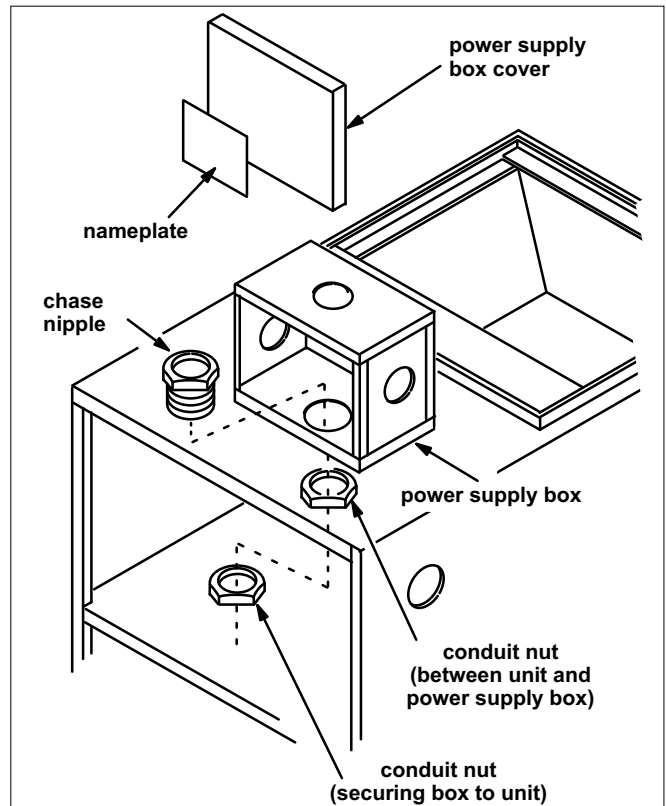

Figure 1. Single Point Power Supply Junction Box Installation
- 3 - Insert chase nipple through the hole in the unit cabinet and use the second conduit nut to secure the power supply junction box to the unit. See figure 1.